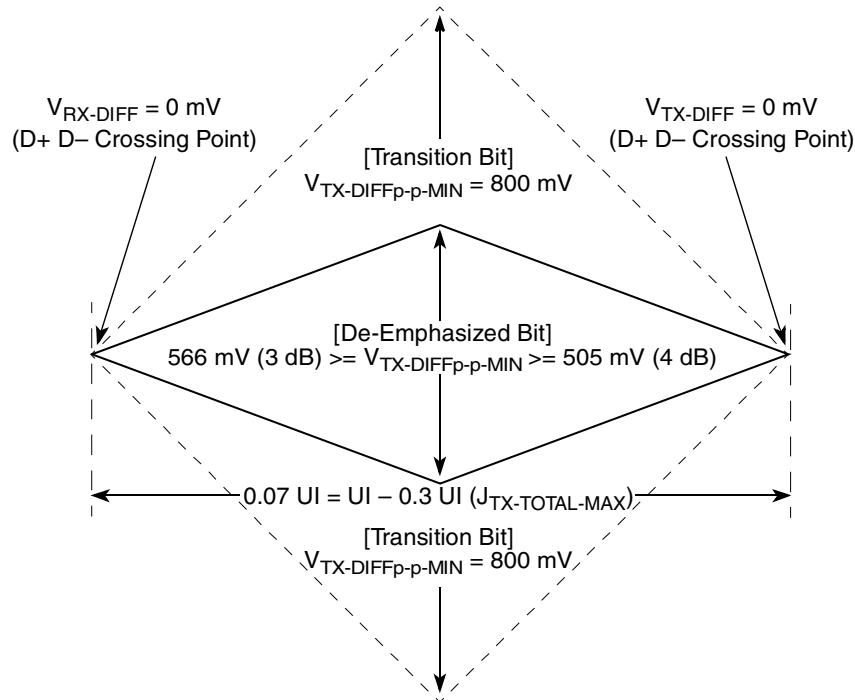
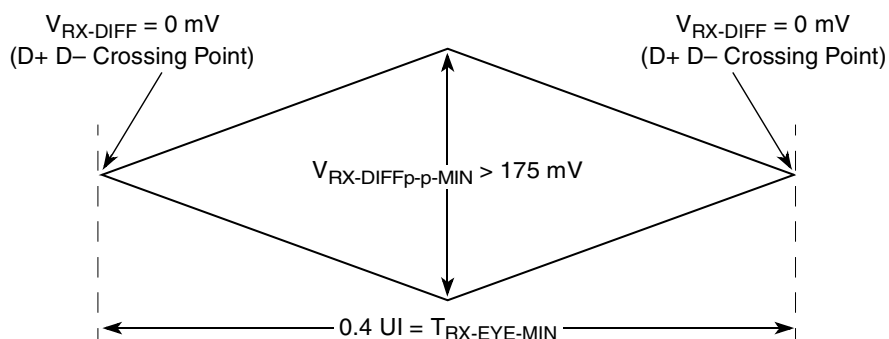
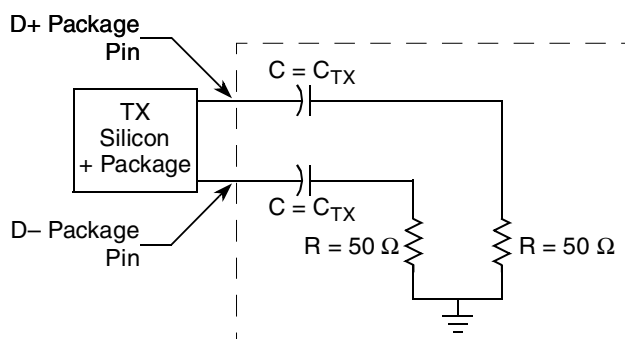

Figure 48. Minimum Transmitter Timing and Voltage Output Compliance Specifications
Figure 49. Minimum Receiver Eye Timing and Voltage Compliance Specification
Figure 50. Compliance Test/Measurement Load
- Specified at the measurement point into a timing and voltage compliance test load as shown in Figure 50 and measured over any 250 consecutive TX UIs. (Also refer to the transmitter compliance eye diagram shown in Figure 48.)
- The transmitter input impedance shall result in a differential return loss greater than or equal to 12 dB and a common mode return loss greater than or equal to 6 dB over a frequency range of 50 MHz to 1.25 GHz. This input impedance requirement applies to all valid input levels. The reference impedance for return loss measurements is 50  $\Omega$  to ground for both the D+ and D– line (that is, as measured by a vector network analyzer with 50- $\Omega$  probes—see Figure 50). Note that the series capacitors  $C_{TX}$  is optional for the return loss measurement.
- Measured between 20%–80% at transmitter package pins into a test load as shown in Figure 50 for both  $V_{TX-D+}$  and  $V_{TX-D-}$ .
The TX eye diagram in Figure 48 is specified using the passive compliance/test measurement load (see Figure 50) in place of any real PCI Express interconnect +RX component.
2. Specified at the measurement point and measured over any 250 consecutive UIs. The test load in Figure 50 should be used as the RX device when taking measurements (also refer to the receiver compliance eye diagram shown in Figure 49). If the clocks to the RX and TX are not derived from the same reference clock, the TX UI recovered from 3500 consecutive UI must be used as a reference for the eye diagram.
4. The receiver input impedance shall result in a differential return loss greater than or equal to 15 dB with the D+ line biased to 300 mV and the D– line biased to –300 mV and a common mode return loss greater than or equal to 6 dB (no bias required) over a frequency range of 50 MHz to 1.25 GHz. This input impedance requirement applies to all valid input levels. The reference impedance for return loss measurements for is 50  $\Omega$  to ground for both the D+ and D– line (that is, as measured by a vector network analyzer with 50- $\Omega$  probes—see Figure 50). Note: that the series capacitors CTX is optional for the return loss measurement.
The RX eye diagram in Figure 49 is specified using the passive compliance/test measurement load (see Figure 50) in place of any real PCI Express RX component.
Note: In general, the minimum receiver eye diagram measured with the compliance/test measurement load (see Figure 50) will be larger than the minimum receiver eye diagram measured over a range of systems at the input receiver of any real PCI Express component. The degraded eye diagram at the input receiver is due to traces internal to the package as well as silicon parasitic characteristics which cause the real PCI Express component to vary in impedance from the compliance/test measurement load. The input receiver eye diagram is implementation specific and is not specified. RX component designer should provide additional margin to adequately compensate for the degraded minimum receiver eye diagram (shown in Figure 49) expected at the input receiver based on some adequate combination of system simulations and the return loss measured looking into the RX package and silicon. The RX eye diagram must be aligned in time using the jitter median to locate the center of the eye diagram.
The reference impedance for return loss measurements is 50. to ground for both the D+ and D– line (that is, as measured by a vector network analyzer with 50-Ω probes—see Figure 50). Note that the series capacitors, CTX, are optional for the return loss measurement.
The AC timing and voltage parameters must be verified at the measurement point, as specified within 0.2 inches of the package pins, into a test/measurement load shown in Figure 50.